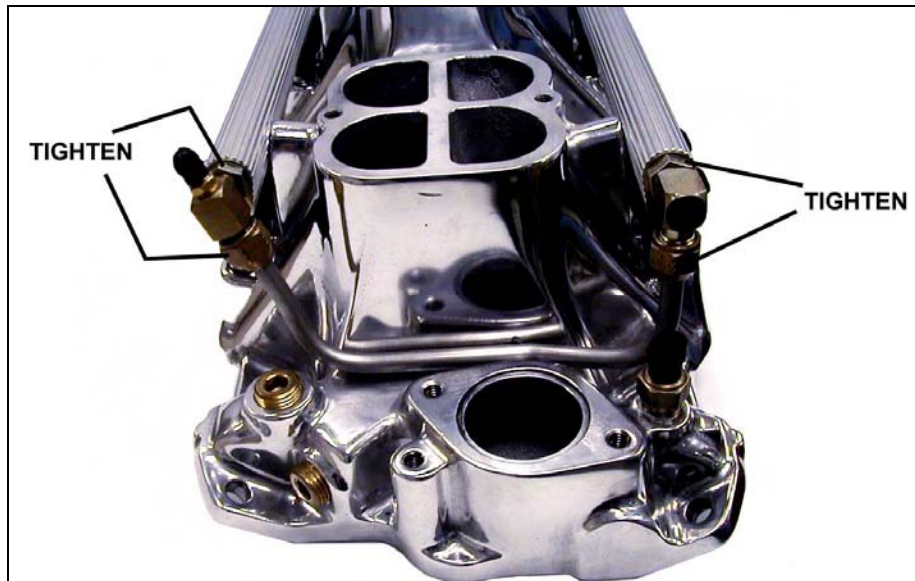

Figure 3
6. Securely tighten the front crossover tube with a wrench. See Figure 3.
The high-pressure fuel supply system consists of the following sub-systems: the fuel pick-up, the coarse fuel pump filter, the high-pressure electric fuel pump, the 10u fuel filter, and the feed line (See Figure 3). The fuel pick-up delivers fuel from the tank to the inlet of the fuel pump filter. From the filter, the fuel line supplies filtered fuel to the high-pressure pump inlet. The high-pressure electric fuel pump delivers pressurized fuel to the 10u fuel filter, which in turn delivers filtered pressurized fuel to the fuel rails, fuel injectors, and the fuel pressure regulator. The function of the regulator is to maintain a constant fuel pressure of 300kPa (43.5psi). The outlet of the regulator returns the excess fuel back to the fuel tank. The kit contains the required hardware for the supply and return system.